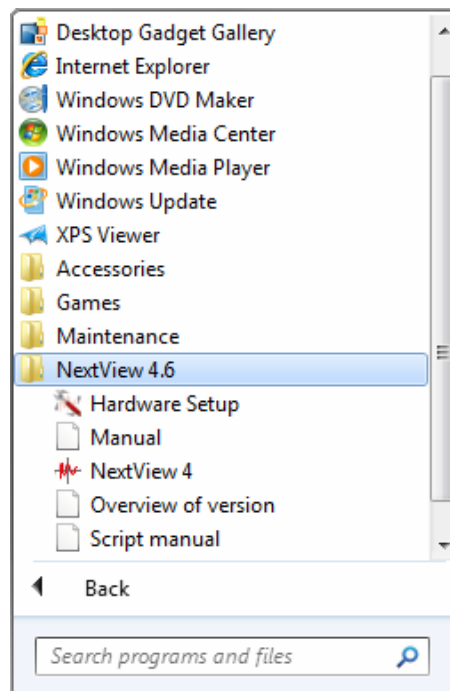

Figure 3
- **The composition of measurement hardware used with NextView®4 can be changed at any time. The "Device setup" dialog is accessible via the Windows® Start menu by clicking the item "Hardware Setup" in the NextView®4 program group (see **Figure 3**) or via the correspondent tile on the Windows® 8 start screen.**